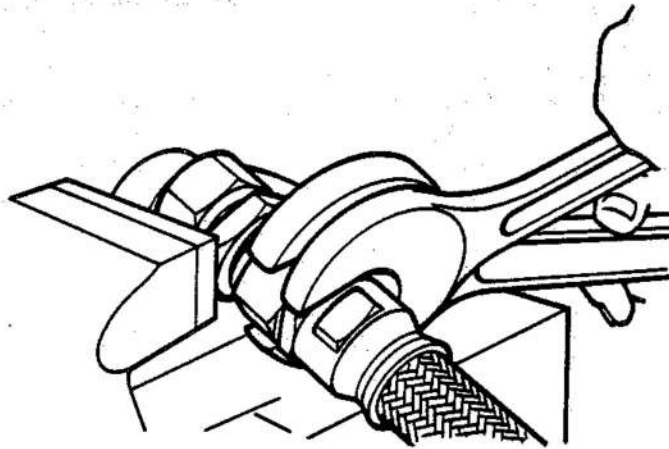

Fig.3 Correct method of loosening swivel nut connections
3. When disconnecting a swivel nut fitting it is necessary to hold the nipple assembly with a spanner placed on the hexagon section (fig. 3). Loosen the nut by turning with a second spanner, then open the connection by unscrewing the nut by hand.